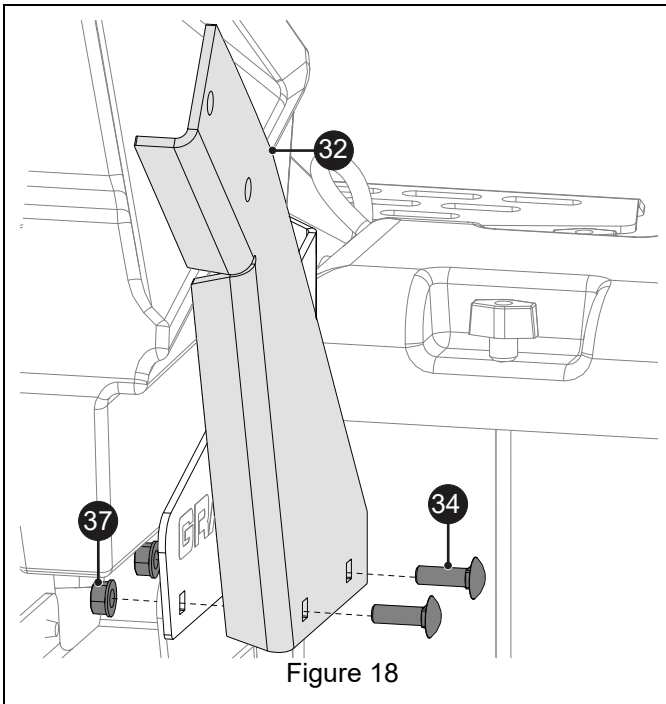

Figure 18
23. Mount upper mounting bracket (item 32) to fuel tank bracket using two 5/16" x 1" round head square neck bolts (item 34) and two locking center flange nuts (item 37). See Figure 18.